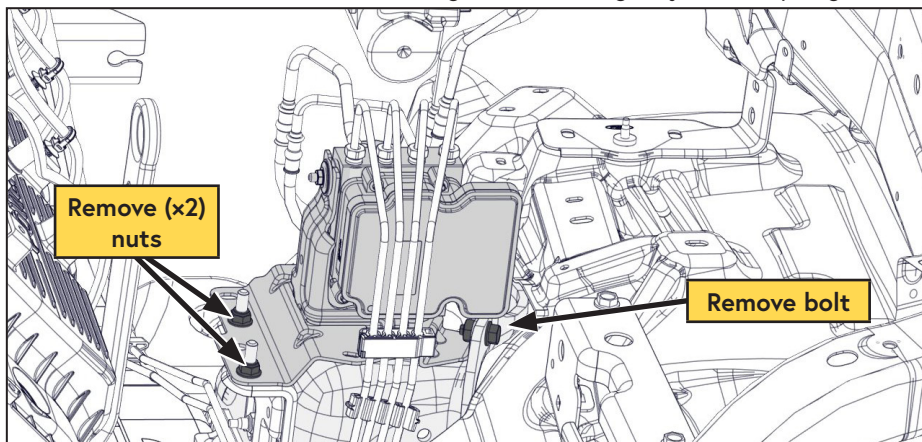

Figure 11 — Relocating the HCU
- Remove the bolt and (x2) nuts securing the HCU and gently raise it up (Figure 11).